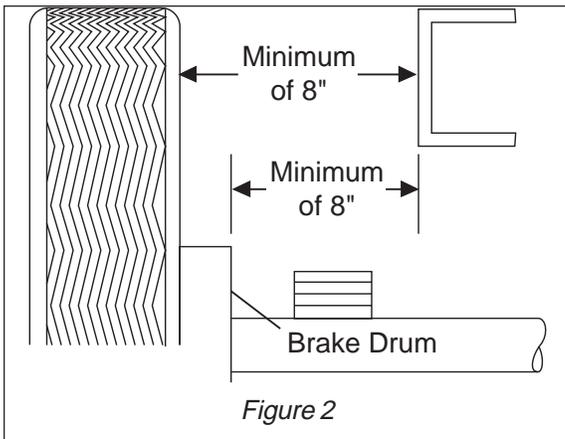

Figure 2
1. Note: Before proceeding with installation, measure opening from frame rail to brake drum or the tire, which ever is closest to frame. The measurement must be a minimum of 6 inches (Figure 2). If spacing is OK, remove rear wheels and support frame with safety stands.